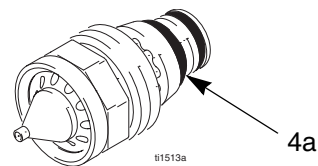

Fig. 21. Nozzle Conductive O-Ring
5. Make sure the metal contact (C) in the barrel, the nozzle contact ring (4a, FIG. 21.), and the electrode contacts (E) are clean and undamaged.